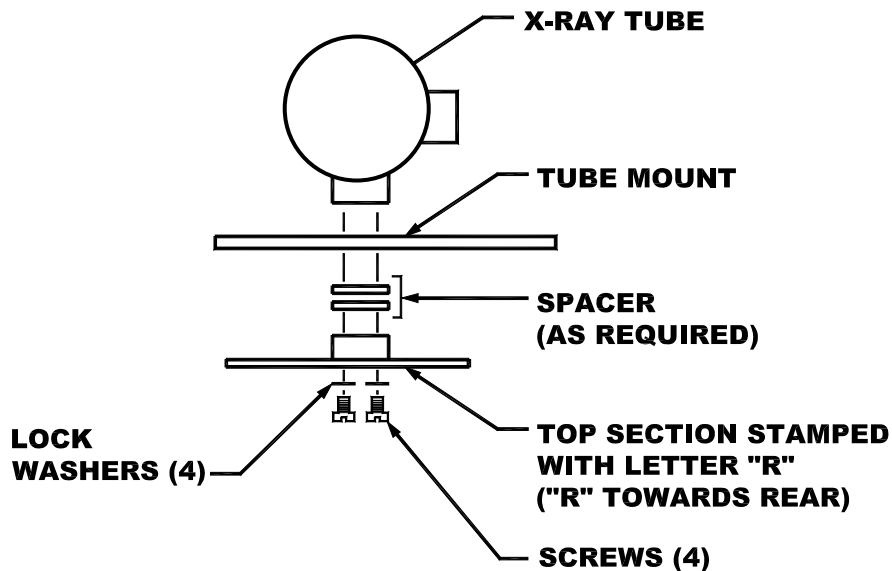

FIG. 4
- B. Mount the top section of collimator and appropriate spacers to tubemount and tube using (4) screws of proper length and thread size and (4) lock washers. (SEE FIG.4).